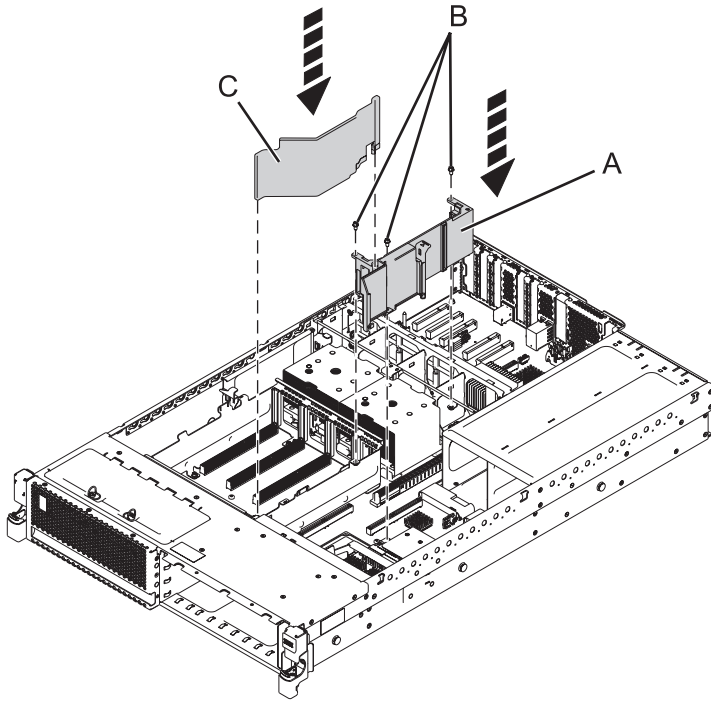
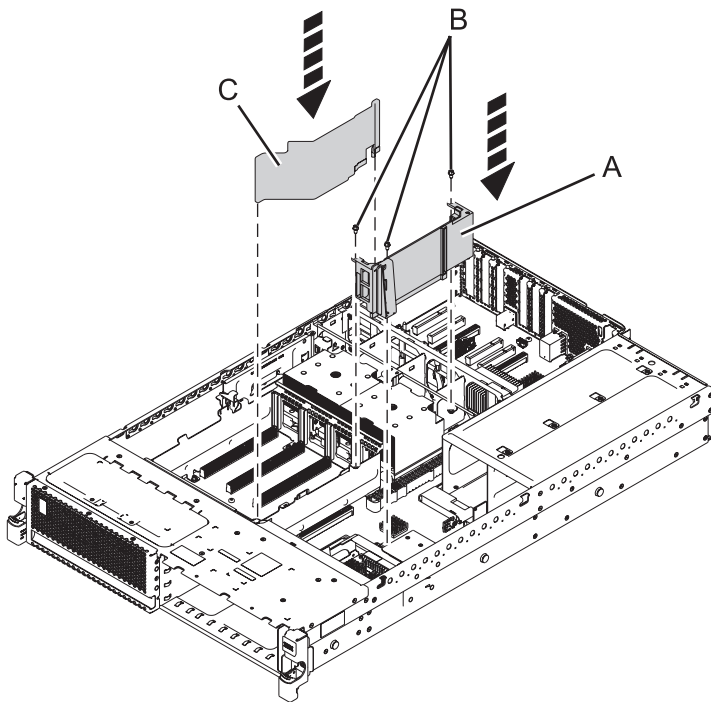

Figure 56. Replacing the voltage regulator guide air divider in the 8231-E2B
Figure 57. Replacing the voltage regulator guide air divider in the 8231-E1C, 8231-E1D, 8231-E2C, 8231-E2D, or 8268-E1D
- a. Lower the voltage regulator guide (A) into place and tighten the three screws (B) that secure it in place. See Figure 56 on page 66 or Figure 57 on page 66.
- b. Lower the air divider (C) into place.